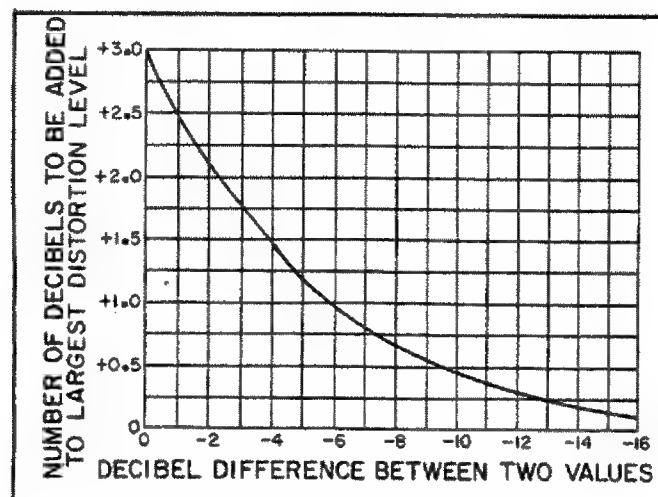

Figure 4-3. Logarithmic Addition of Harmonic Components.
g. Calculate the Total Harmonic Distortion using the graph shown in Figure 4-3. As an example—If the amplitude of the second harmonic is -110 dB and the third harmonic amplitude is -114 dB the dB difference between the two is -4 dB. Locate this number on the horizontal axis of the graph. The -4 line intersects the curve at approximately the $+1.5$ level on the vertical axis. The total harmonic distortion is therefore the amplitude of the largest harmonic (second harmonic) plus the number determined on the vertical axis (-110 dB $+ 1.5$ dB = -108.5 dB).